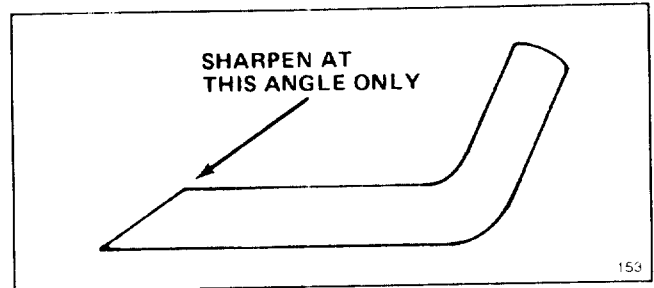

Figure 26
6. **SHARPENING BLADE**—Using a file, sharpen top side of blade and maintain original cutting angle (Fig. 26). The blade will remain balanced if same